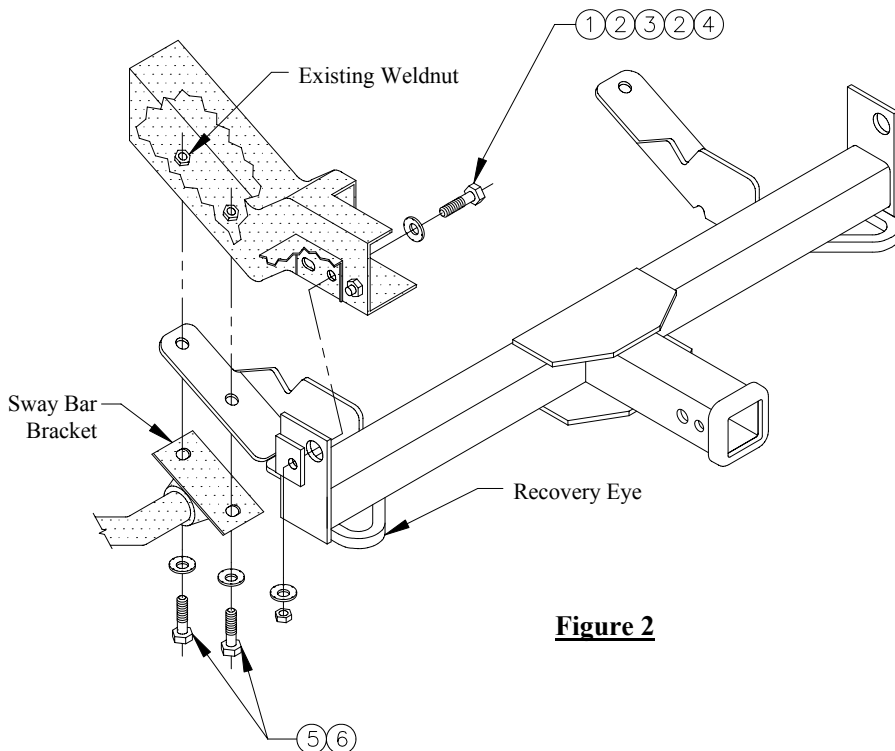

Figure 2
4. Raise receiver into position and reattach sway bar brackets placing the receiver between the frame and the sway bar bracket as shown in Figure 2.